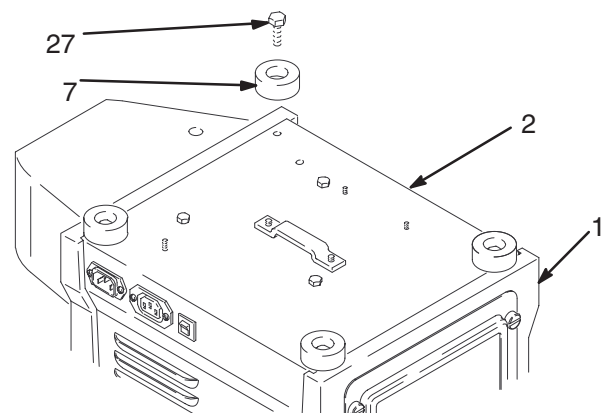
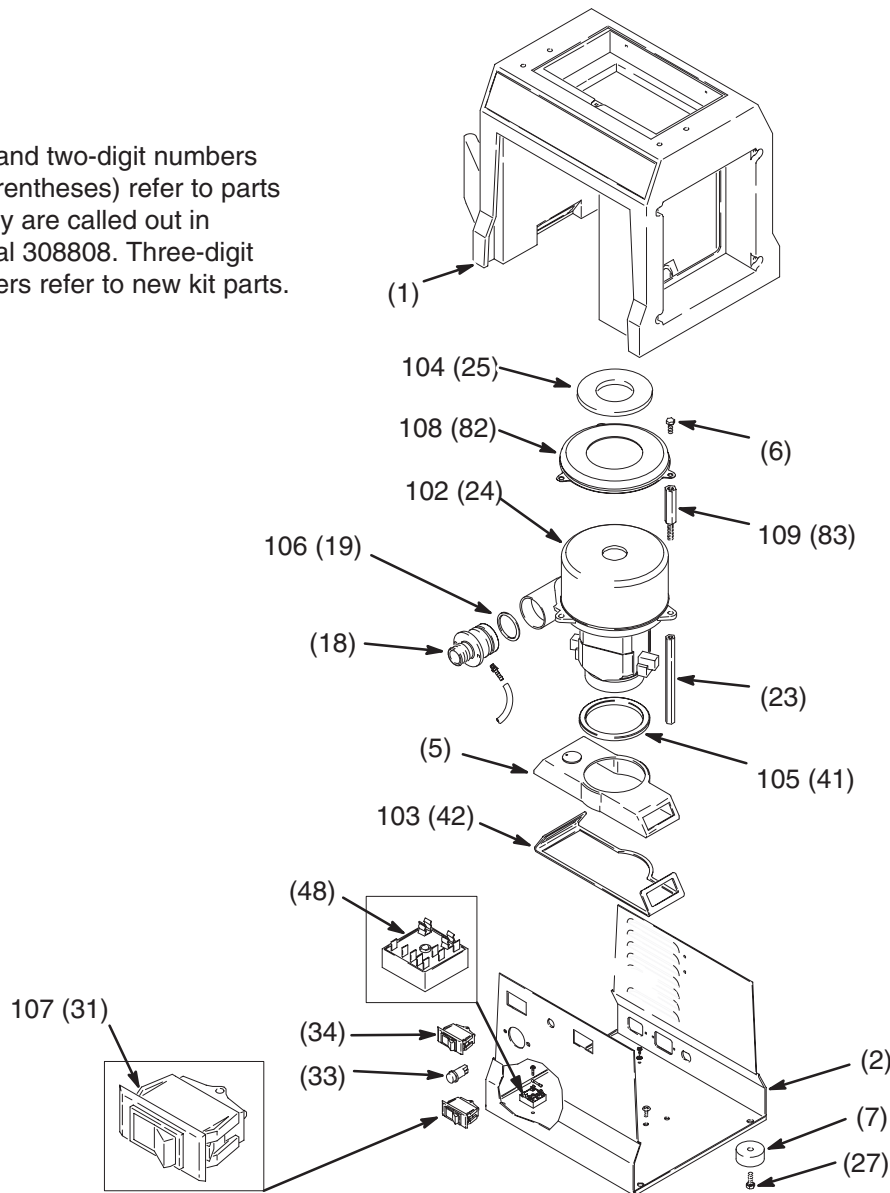

Fig. 2
Fig. 3
Use these procedures to install the 2-Speed Turbine Conversion Kit. See Fig. 2 and Fig. 3 and the **Parts Drawing** in manual 308808.
2. Place turbine upside down on work surface. Remove four cap screws (27) and bumpers (7) as shown in Fig. 2.
3. Carefully lift and remove turbine base plate (2) from cover (1). Place turbine upright on work surface.
1. In orientation shown in Fig. 3, install rocker switch (107) in hole left by removed switch (31).
2. Connect male tab end of one white wire (110) to spade terminal 2 of switch (107). Position spade to outside of switch to ease connection of second wire. Connect other end of white wire to spade terminal 5 of red rocker switch (34).
1. Fig. 3. Replace turbine gaskets (41 and 42) with gaskets (105 and 103) on turbine duct (5).
2. Place 2-speed turbine (102) alongside turbine base plate (2), standing it on end (large-diameter end up).
3. Connect black wire from turbine to spade terminal wire connected to terminal 2 of red rocker switch (34).
4. Connect white wire from turbine to spade terminal 5 of rocker switch (107).
5. Connect yellow wire from turbine to spade terminal wire connected to terminal 1 of rocker switch (107).
6. Connect blue wire from turbine to spade terminal 4 of rocker switch (107).
7. Connect red wire from turbine to spade terminal wire connected to terminal 2 of rocker switch (107).